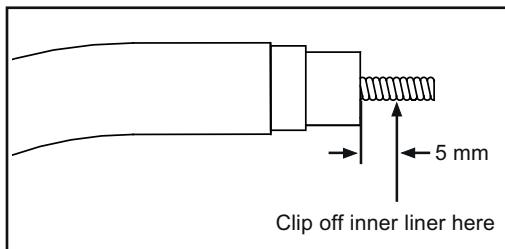

Fig. 3
- 5** Clip off the inner liner at the end of the torch body (+ 5mm) (Fig. 3). Do not make the inside diameter any smaller!